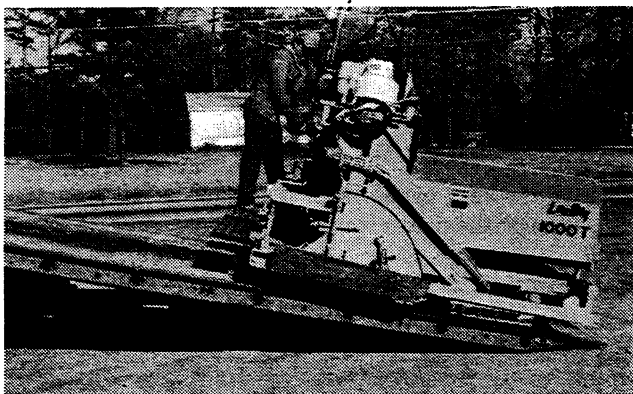

Figure 3-1 – Unloading Paver
5. Move the paver forward down the ramp as shown in Figure 3-1.